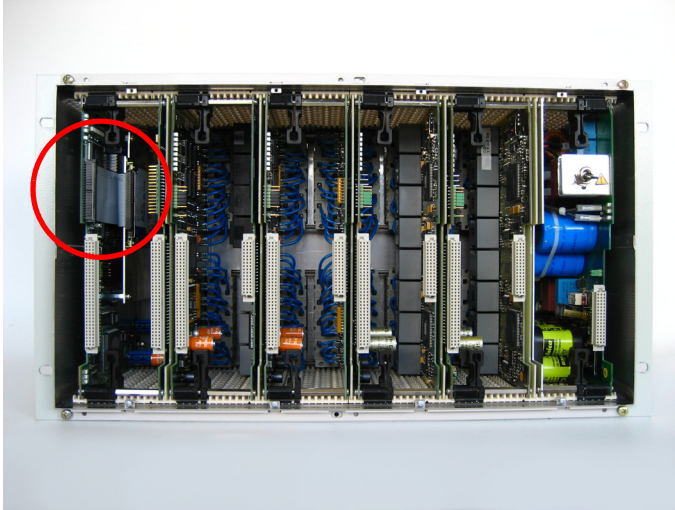

Figure 3-14 IDE connecting cable at the CPU module
- ❑ Carefully pull the IDE connecting cable of the 2.5" flash disk from the plug connector (see Figure 3-14). Make sure not to bend the connection pins of the CPU board.